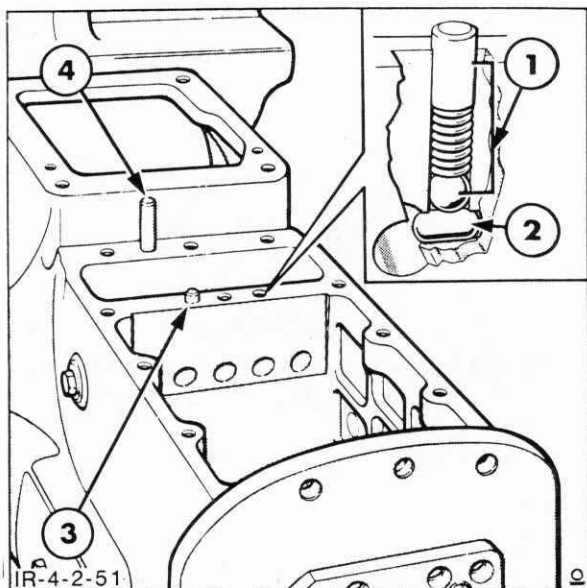

Figure 4-167
6. Install the interlock detent into the drilling between the 1st/2nd and 3rd/4th gearshift rail bores of the transmission inner wall, Figure 4-167.
10. Insert the safety start switch plunger into the respective bore, Figure 4-167. Insert the gearshift rail balls, springs and detents into their respective bores, Figure 4-167.